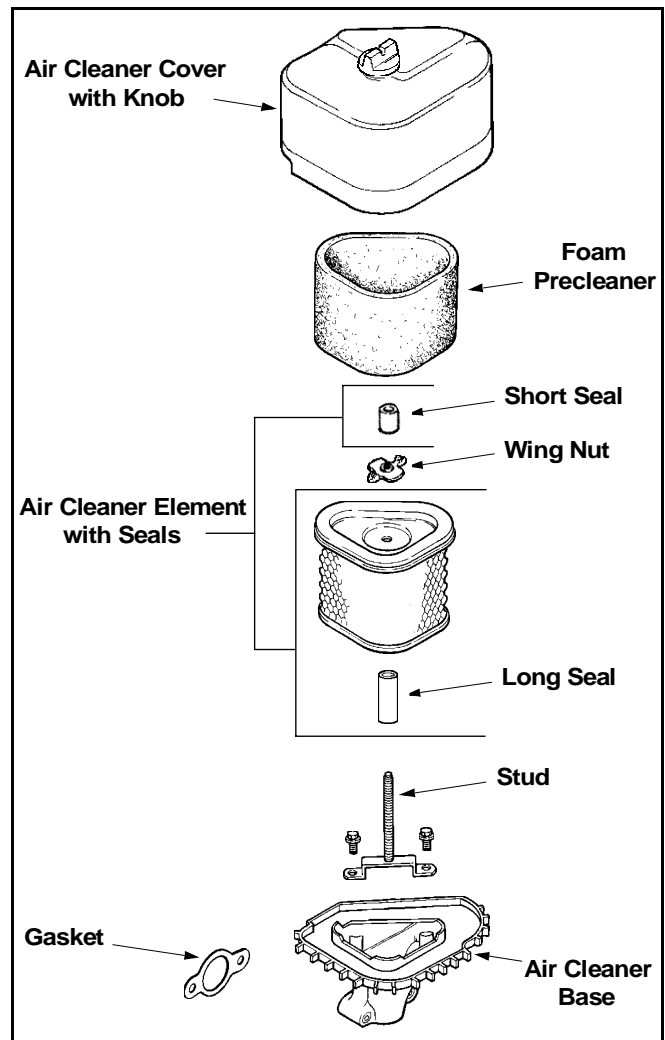

Figure 21
The engine is equipped with a replaceable, high density paper air cleaner element and an oiled, foam precleaner which surrounds the paper element. See Figure 21. Always examine the air cleaner **before starting the engine**. Check for a buildup of dirt and debris around the air cleaner system. Keep this area clean. Also check for loose or damaged components. Replace all bent or damaged air cleaner components.
- Install short seal onto the stud until it contacts the wing nut, then reinstall the cover and tighten the knob securely. Refer to Figure 21.